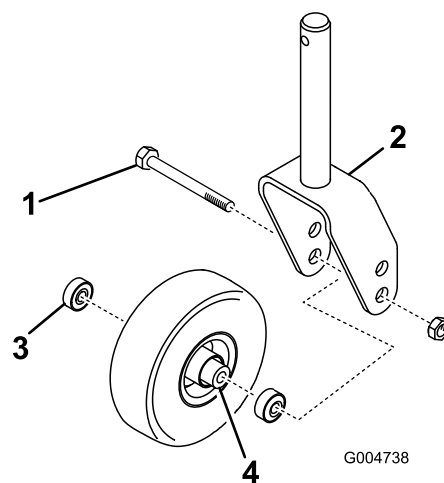

Figure 28
1. Remove the locknut from the bolt holding the caster wheel assembly between the caster fork (Figure 28).
3. Remove the bearing from the wheel hub and allow the bearing spacer to fall out (Figure 28).